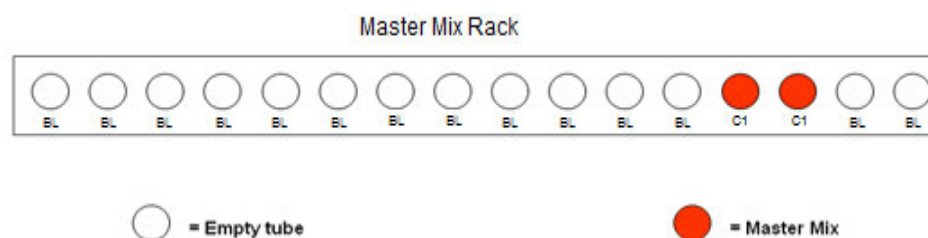

Figure 2 –Positioning for Master Mix Rack
4.5.5	Place tubes in the Master Mix Rack (see Figure 2): <ul style="list-style-type: none"> Positions 3 and 4: the two tubes containing equal volumes of master mix (with “C1” barcodes). Ensure tubes are uncapped. Positions 1, 2, and 5 through 16: empty tubes (with unique “BL” barcodes).